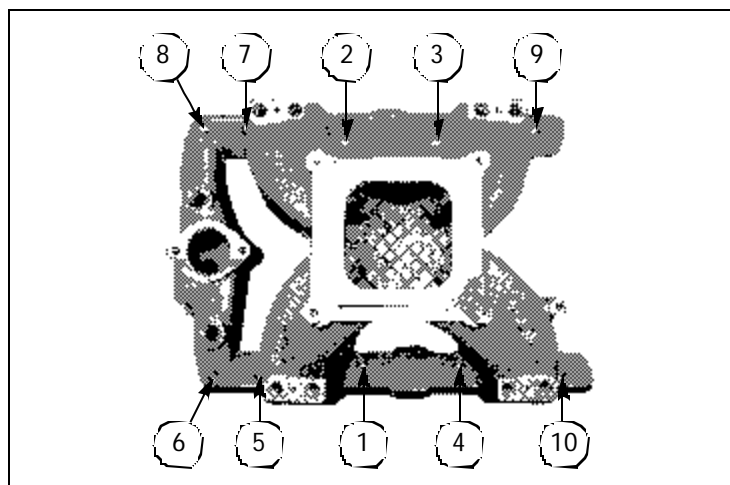

Figure 1 - Bolt Tightening Sequence
3. Then torque all bolts circled in Figure 1 to 25 ft./lbs. See Figure 1 for proper sequence.